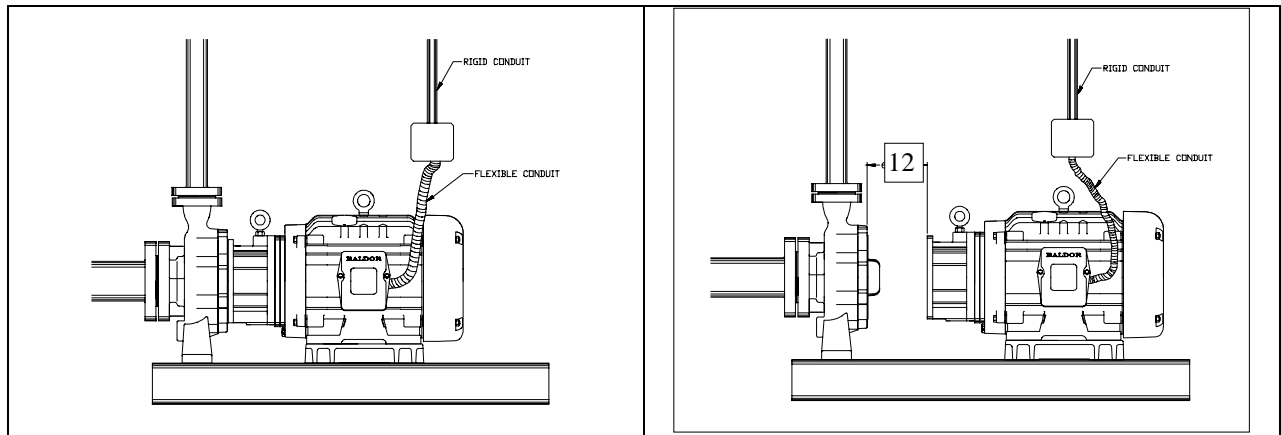

Fig.5-3: Flexible Electrical Connection on the Motor
3. The motor electrical wiring should include a flexible section near the motor to allow movement of 12" [300 mm] for servicing of the pump without disconnecting piping. The recommended installation is illustrated in Figure 5-3.